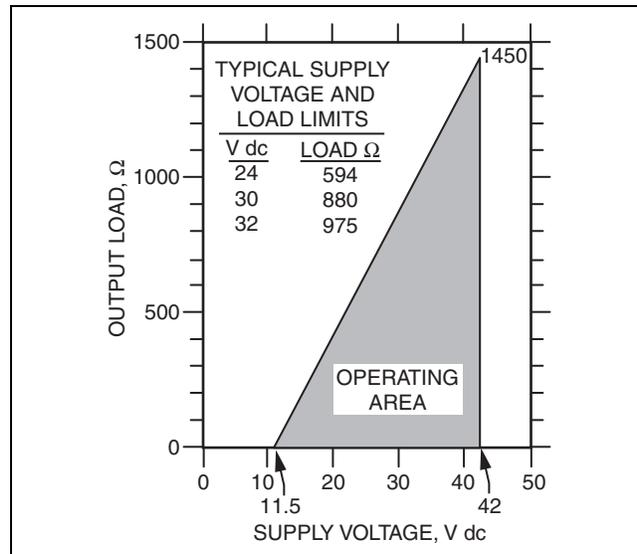

Figure 18. Supply Voltage vs. Output Load
Supply Voltage Requirements and External Loop Load Limitations (Figure 18)
Nominal minimum voltage shown in Figure 18 is 11.5 V dc. This can be reduced to 11 V dc using a plug-in jumper across the test receptacles in the field wiring compartment terminal block. An optional plug-in shorting bar (Figure 21) is offered for this purpose.
- (e) 11.5 V dc can be reduced to 11 V dc by using a plug-in shorting bar; see “Supply Voltage Requirements” section and Figure 18.